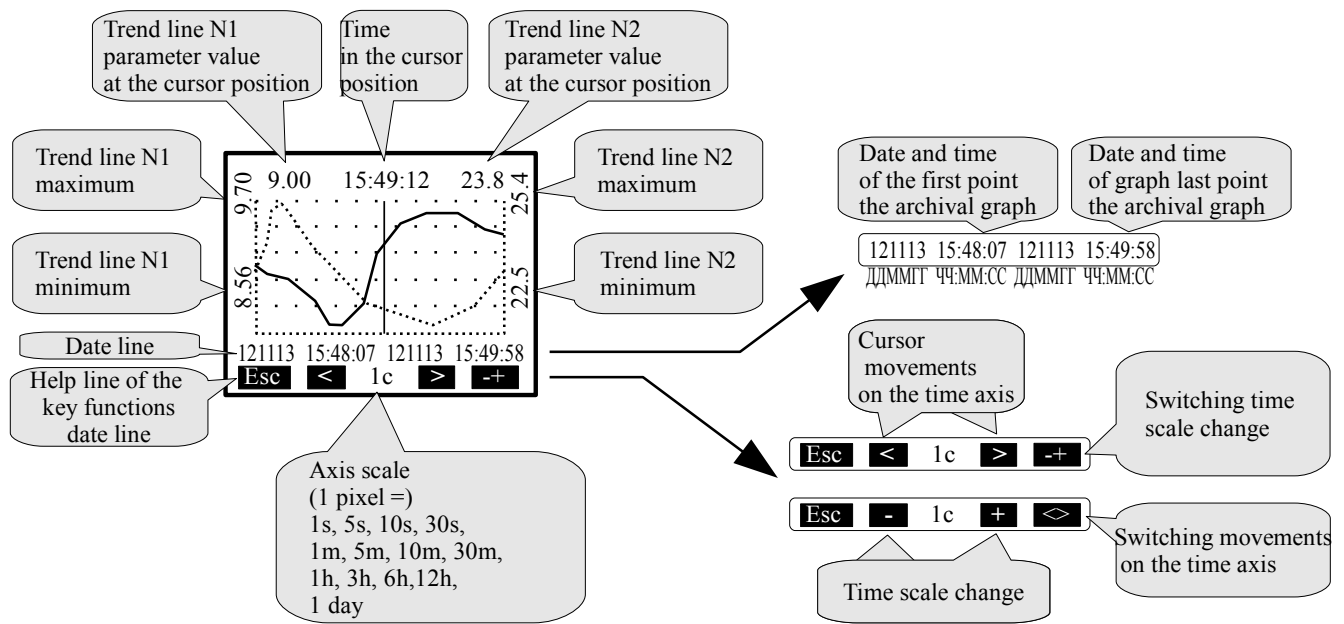

Figure 1 - Description of the control elements and data display in the "View Archive" sub-menu
- **View Archive** - in this mode the archive is displayed. Right button  allows to switch the control cursor mode:  and  or a time discrete interval will be changed or cursor indicating the time of viewing and the values of the measured parameters at this time moves (See Figure 1).